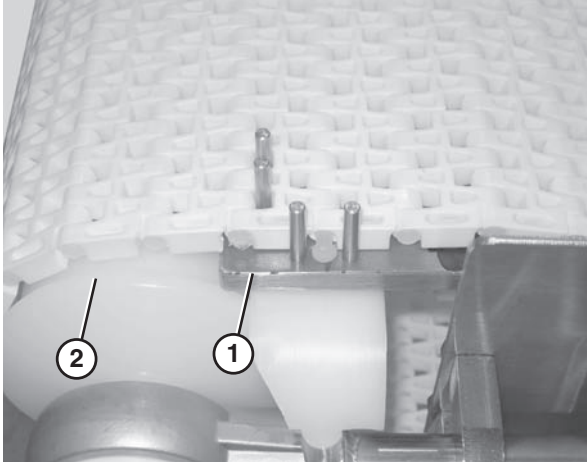

Figure 59
2. Secure the retaining head side of the belt. Use the belt removal tool (Figure 59, item 1) for 1" pitch belts. For all other belts, position the section of belt so that it is braced by the flanged puck (Figure 59, item 2).